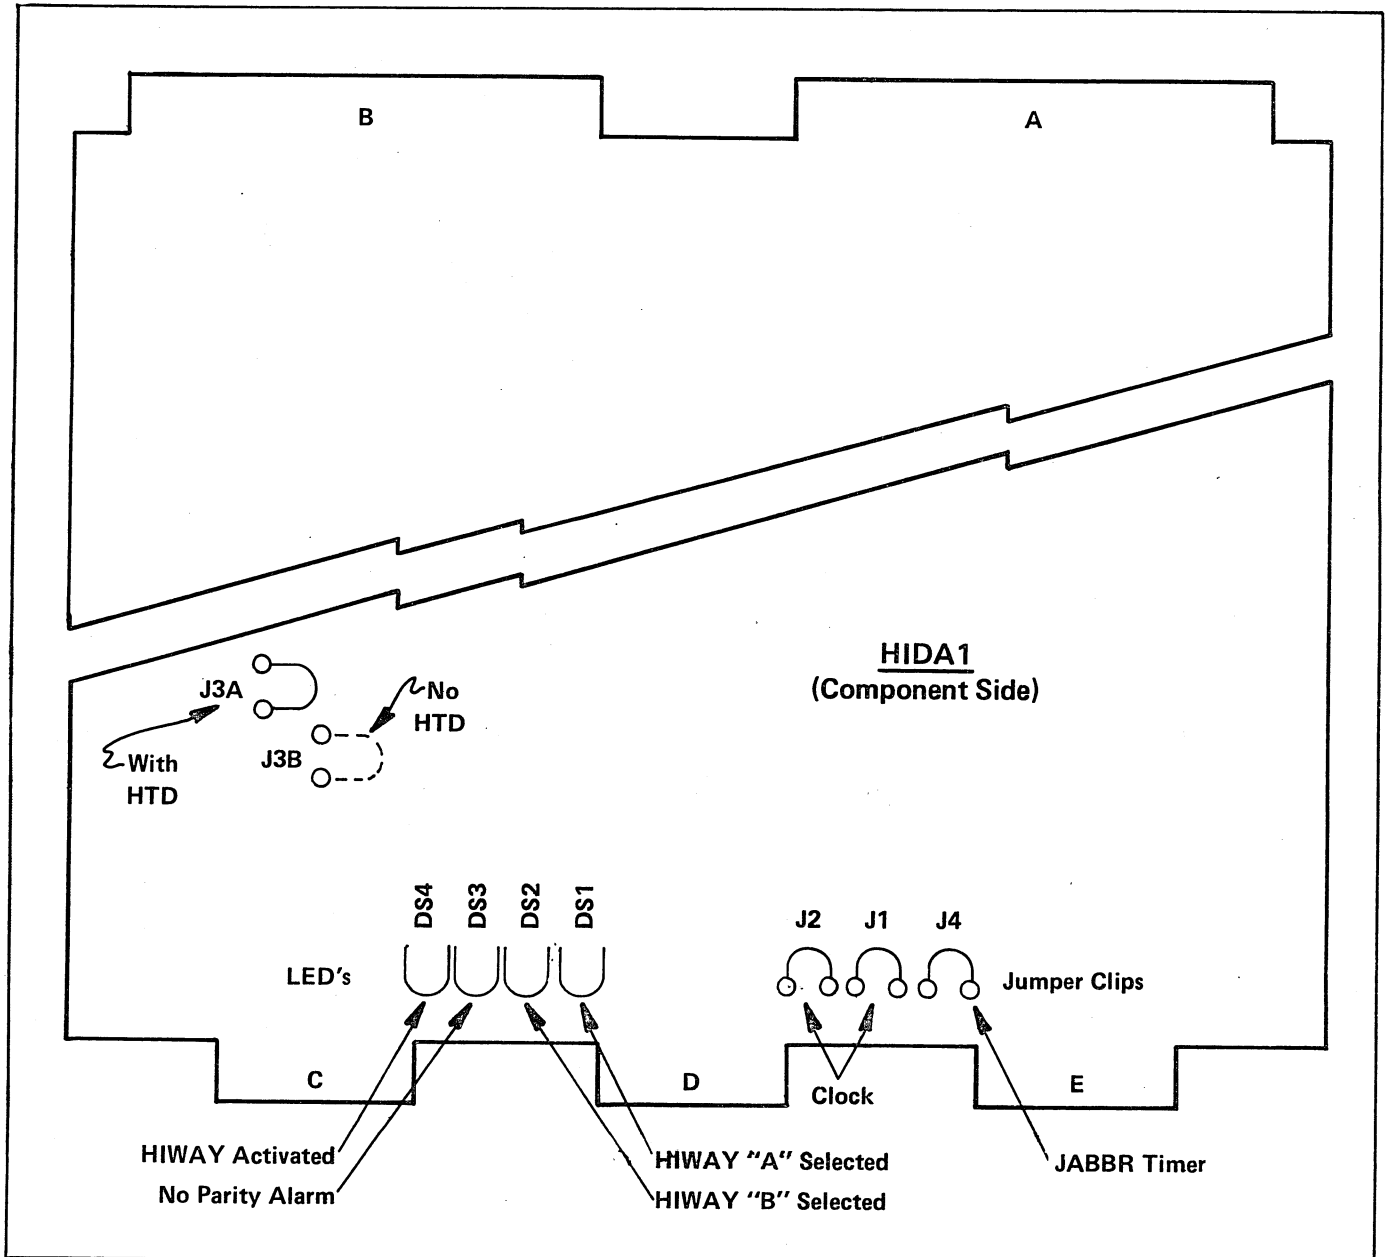

Figure 1
- B. Power Up the computer system. Note that both the Hiway "A" and "alarm" indicators light up (alarm on indicates no Bus alarm). Refer to Fig. 1 for location of indicator lamps.